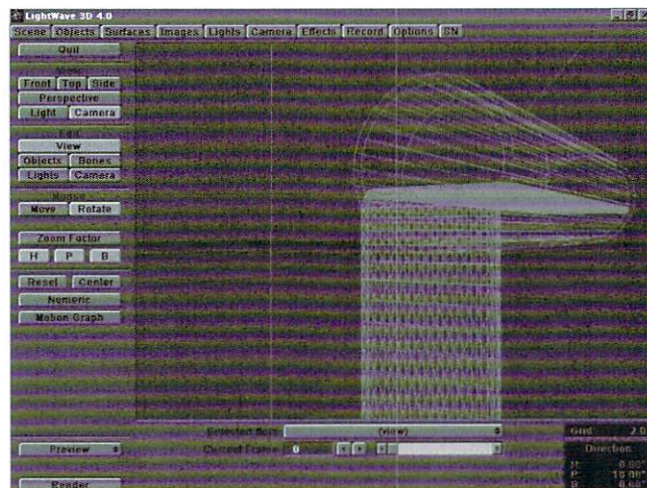

Figure 16: The camera view of our scene.
0. In the main window either press the (Enter) key twice, or select Create Key (Main Window) and click OK. Figure 16 shows what this view will look like.